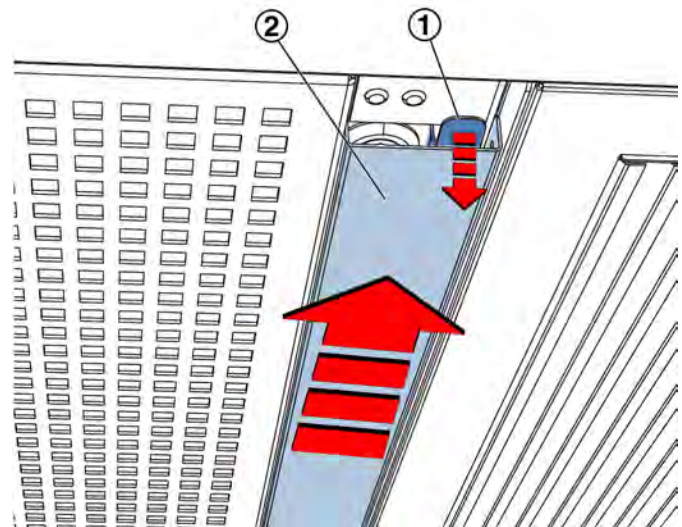

Fig. 79: Releasing the cover strip
- 1. ▶ On the outside of the device, engage the cover strip on the side and press down the tab (Fig. 79 /1). Then push the cover strip outwards and remove it. Store the cover strip for later assembly in such a way that it is not damaged.